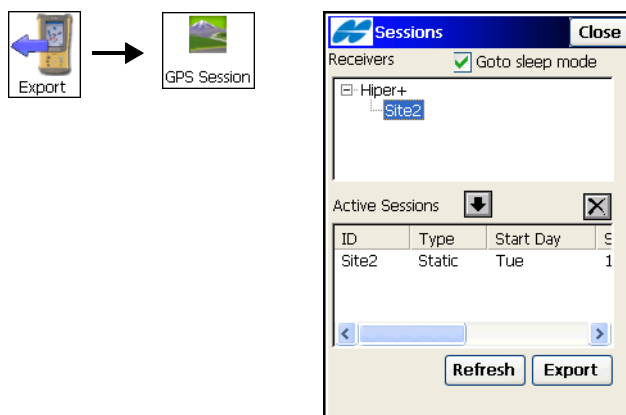

Figure 5-38. Job Session
1. This function is available in PP Static survey mode. To export the GPS session to the receiver, establish a connection between the controller and the applicable receiver, then tap **Export ► Sessions** (Figure 5-38 on page 5-27).
2. On the the *Sessions* screen (Figure 5-38), select the sessions to export in the left panel and tap the  button. The sessions to be exported are displayed in the right panel.